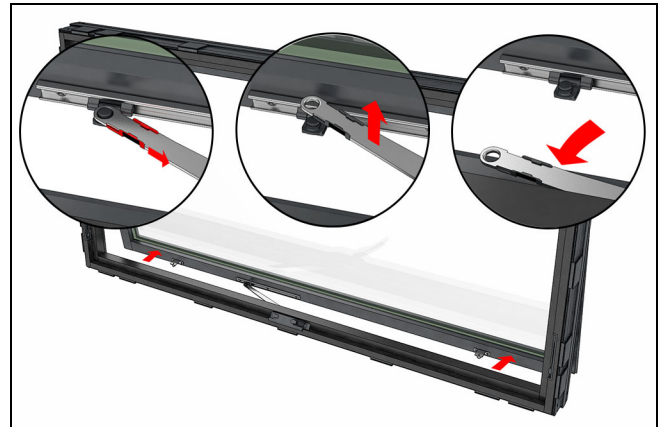

Figure 100
2. Detach the operator arm from the track by sliding back the clip and then pulling the operator arm down. See Figure 100. Crank the arm back into the frame.